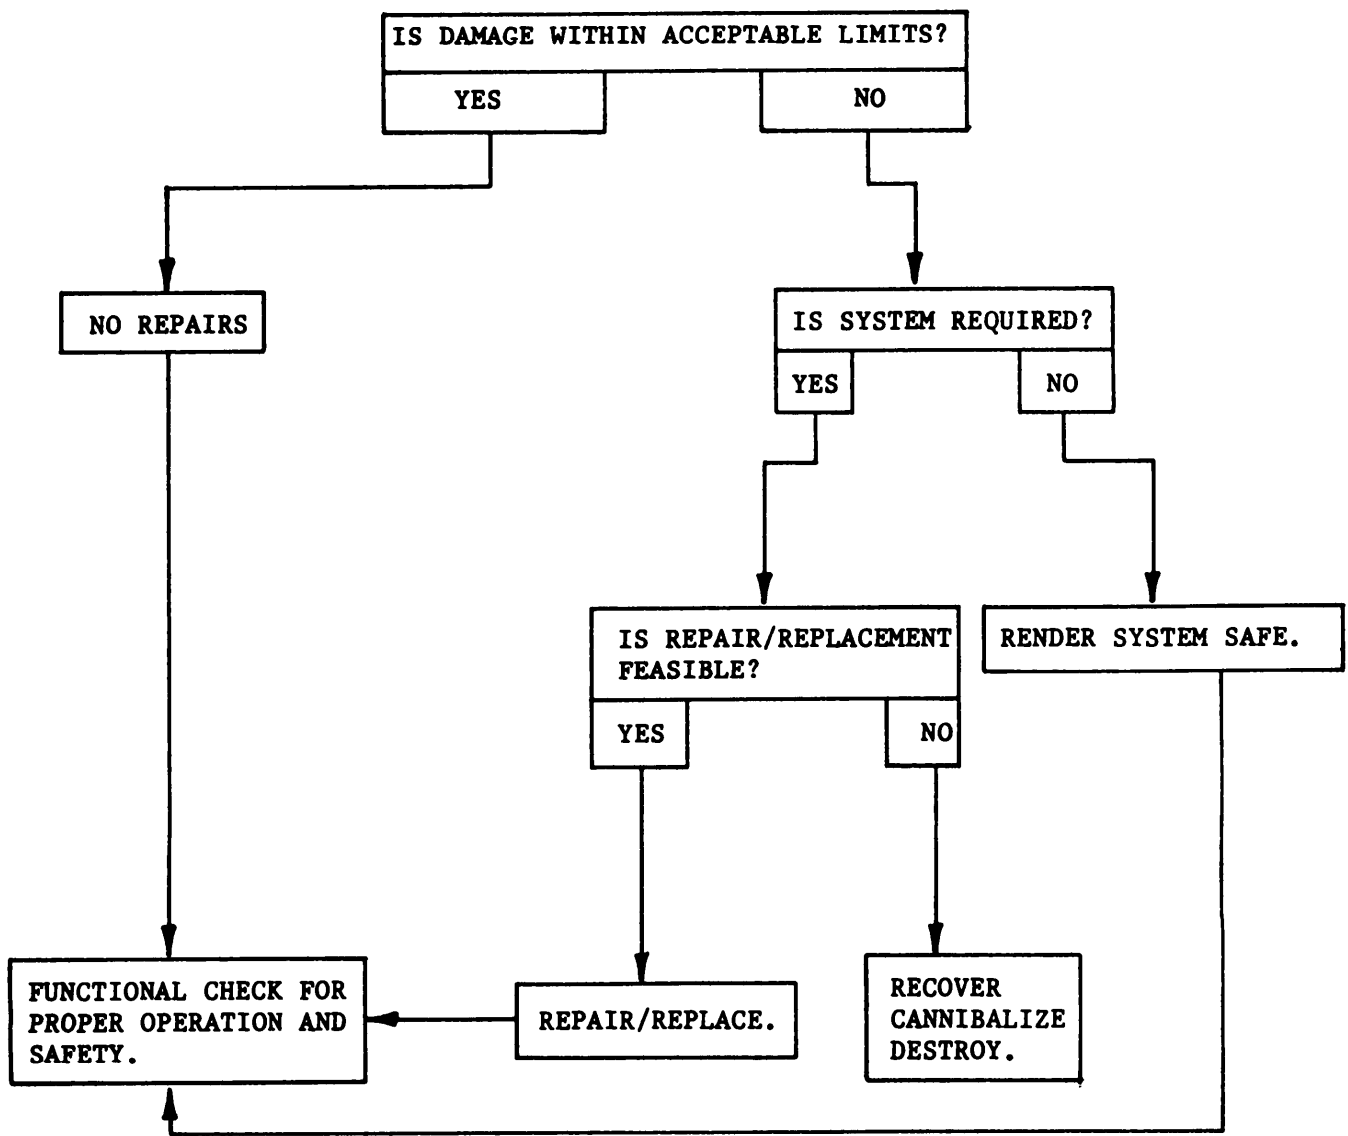

Figure 2-1. Assessment Logic Example
a. The assessment procedures are structured using the assessment logic example shown in figure 2-1 below.